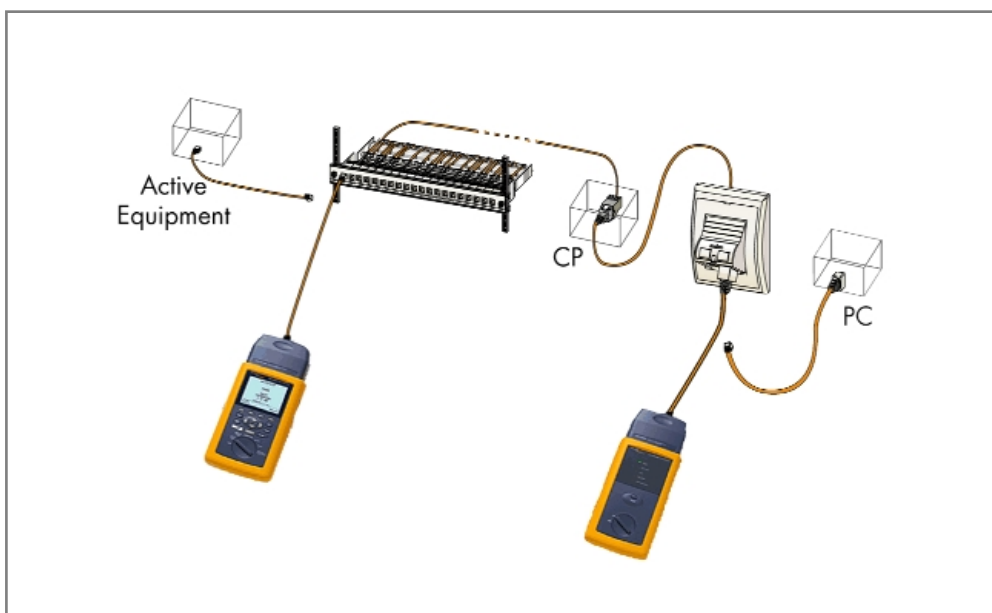

Figure 2.3 : Testing at 3 connector Interconnect - CP - TO model
If the single ended patch cord is manually terminated on the Terminal Outlet (TO), then the full installation has to be measured. See Figure 2.3. Permanent Link testing will do, under the condition that the right test heads are in use.